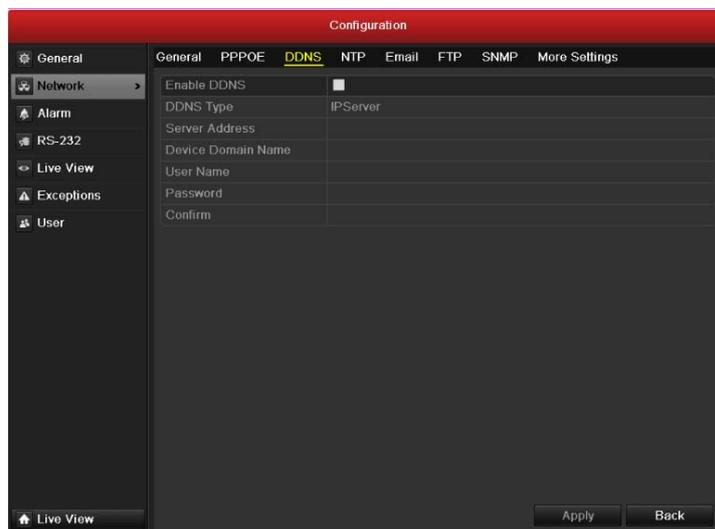

Figure 9.4 DDNS Settings Interface
2. Select the **DDNS** tab to enter the DDNS Settings interface, as shown in Figure 9.4.